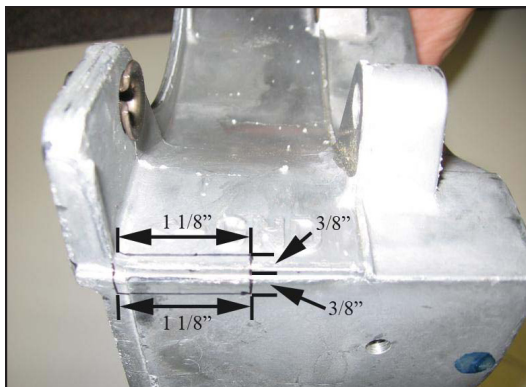

Figure 28. Mark Corner
- b. Mark the corner $1\text{-}1/8\text{'}$ in length and $3/8\text{'}$ deep as shown in Figure 28.